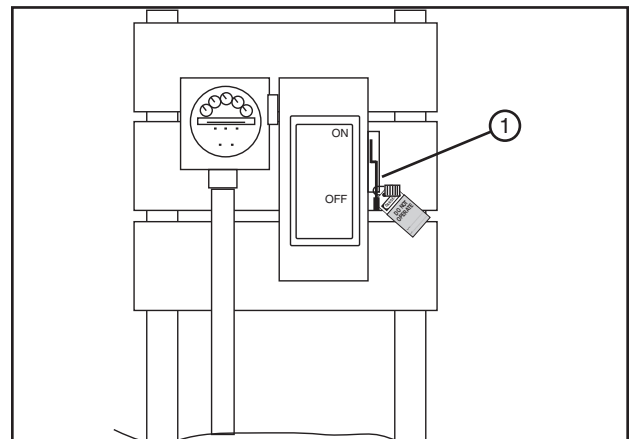

Figure 35-2 1. Public Power Service Disconnect
2. Turn OFF and lock the electrical service disconnect at each tow location. See figure 35-2.